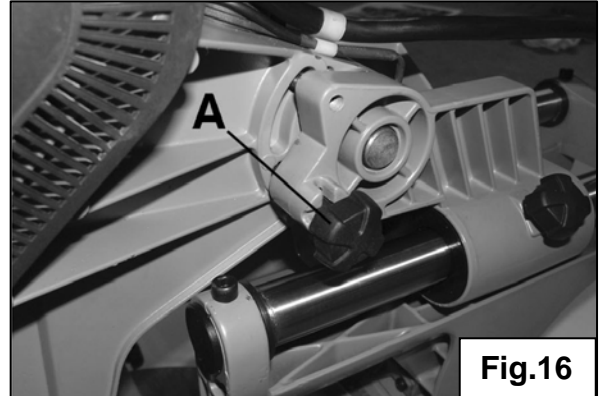

Fig.16
2. Pull and turn the knob **(A) Fig.16**.
2. Pull and turn the knob **(A)** Fig.16.